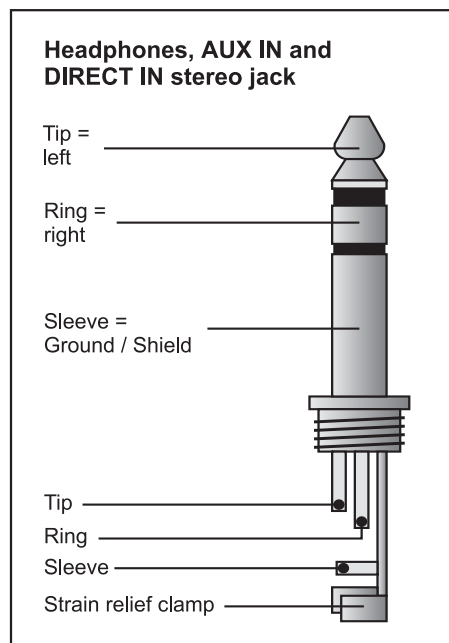

Fig. 3.2: Connector for the headphones, AUX IN and DIRECT IN
- 1 The **DIRECT IN** stereo input is used to apply the signals coming from an external source. When using the **DIRECT IN** input, the **MAIN** signal applied on the rear panel is interrupted automatically (fig. 3.2).
- 5 A further input signal can be added to the **MAIN** and/or **DIRECT IN** signal via the **AUX IN** (fig. 3.2).